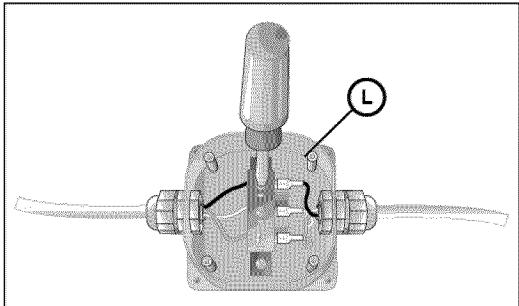

Figure 6
1. Remove the dishwasher electrical supply junction box (Part L) cover and connect to the power supply cord from the house installation. See **Figure 6**.
3. Insert the bare copper or green wire(ground) to the "G" \equiv ground connection of the terminal block and securely tighten the terminal block screw (see **Figure 6**).